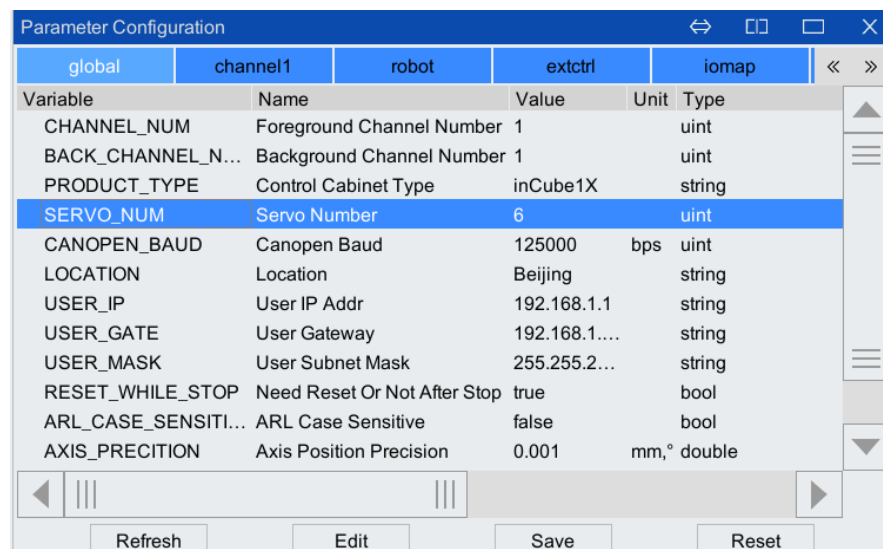

Figure 8-4 "Global" tab
Step1. In "global" tab, find and highlight the line where "SERVO\_NUM (number of slaves)" is located (see Figure 8-4), click <Edit> button below to pop up the edit box, as shown in Figure 8-5.